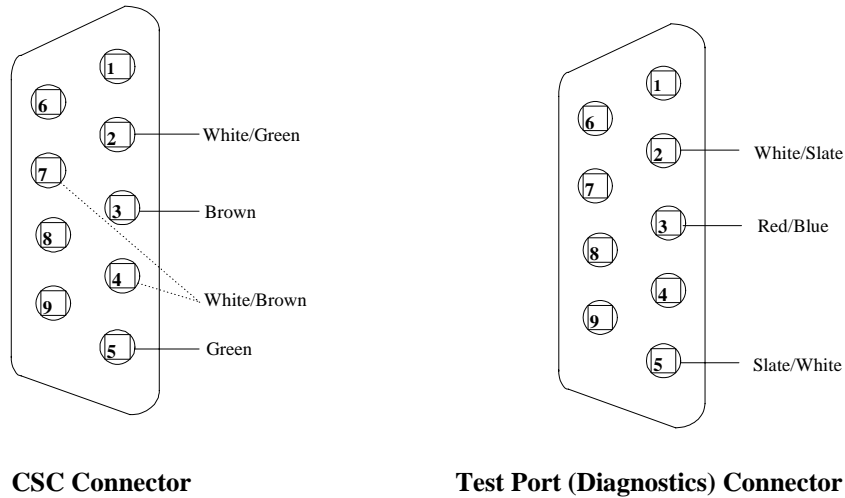

Figure 5. MBS2-LP DB9 Connectors
12. See figure 5 for the pin insertion locations. If the DB9 contacts must be removed for any reason, use Amp tool No. 91285-1 or equivalent.
The DB9 Connector diagram in Figure 5 is looking at the back of the connector. The backside is considered to be the side with the black plastic protruding and the two pair twisted cable is to be inserted from this side. The front of the DB9 Connector only has the metal housing protruding.
13. The CSC connector (see figure 5) is the port used by the Wireless Matrix MBS2-LP to communicate with the Client Side Computer (CSC). This port allows the communication between the Wireless Matrix MBS2-LP and the CSC to take place.
The CSC is a DB9 Female connector that uses four leads of the power-data cable (19 pin, cannon connector) with the pin-out configuration as displayed in figure 5.
The Test Port (Diagnostics) connector (see figure 5) is the port used by the Wireless Matrix MBS2-LP to communicate with the On Board Computer (OBC) module located within the CSC for test and diagnostic purposes only. This port allows diagnostics capabilities between the Wireless Matrix MBS2-LP and the user interface, such as HyperTerminal.
The Test Port is a DB9 Female connector that uses three leads of the power-data cable (19 pin, Cannon connector) with the pin-out configuration as displayed in figure 5.
24. Once the power-data cable is installed, assemble the DB9 connectors for the CSC and Test Ports (use the Cable Configuration Diagram, Figure 5).